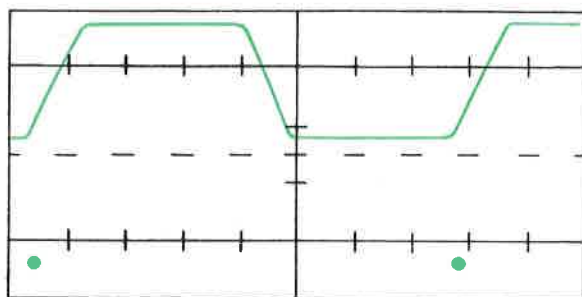

Figure 2-1b. Waveform Positioned Vertically by Position Control
*Note:* Notice that the Read-Out dots are not affected by Channel A POSITION control; see Figure 2-1b.